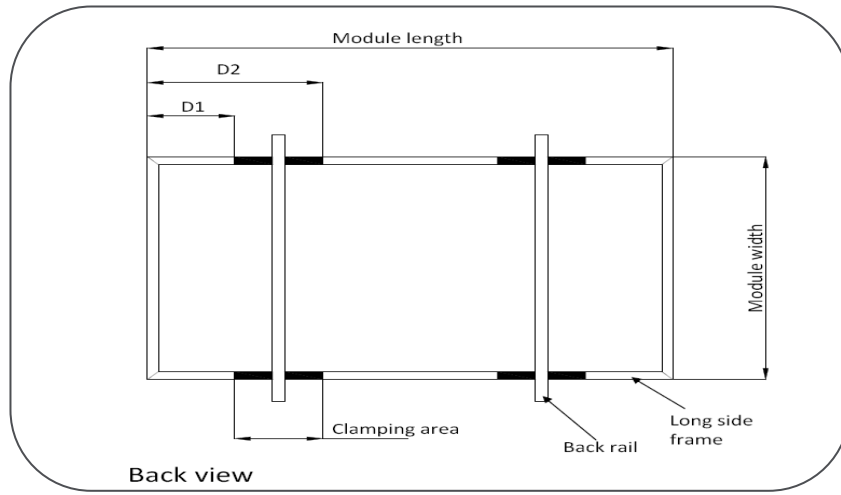
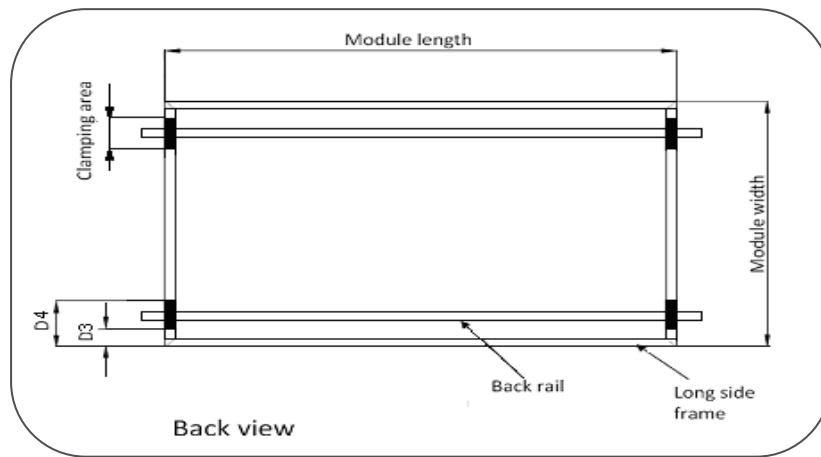

Figure 2 Long rail mounting clamp range (D1 and D2)
Figure 3 Short rail mounting clamp range (D3 and D4)
- b. The ranges of mounting places are illustrated in Figure 2 and Figure 3.
- c. Clamp and frame should attached well without gap as picture ③ shown below.
- d. Please fix clamps on system rails as the picture④ shown below.
- e. Please tighten the screws in bolt torque of 20 N · m, then finish the installation as the picture⑤ shown below.
- Clamp on the long side of the frame (see Figure 2, measurements below)
- Clamp on the short side of the frame (see Figure 3, measurements below)